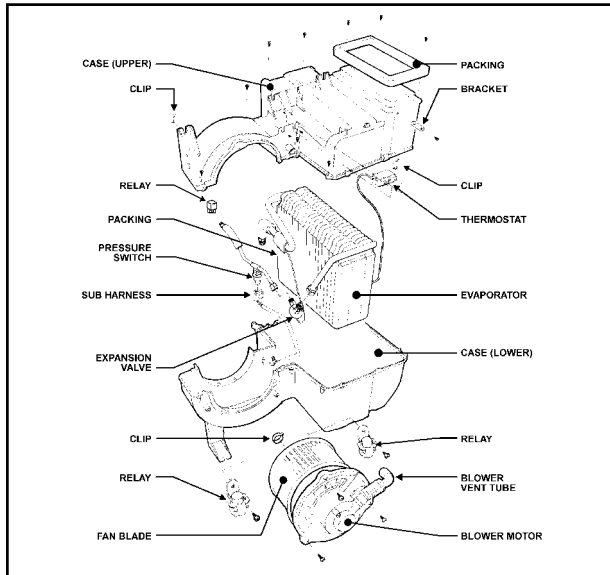

Figure 59: Blower/Cooling Unit (disassembled)
**E. Blower/Cooling Unit Assembly (Fig. 59)**